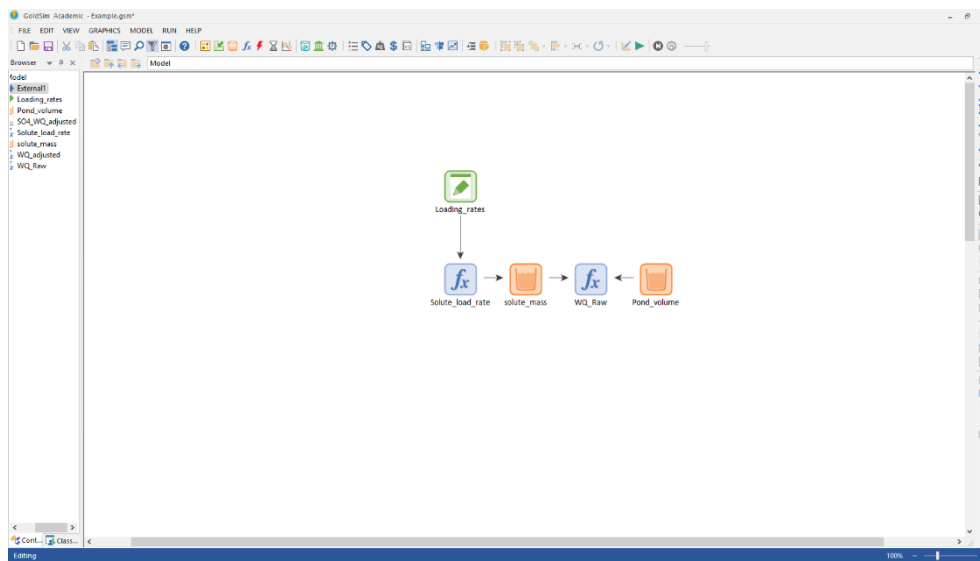

Figure 4: Initial condition of GoldSim Simulation
1. Create the initial conditions of the model, including the input data you are wishing to pass into GoldQC. This example uses a very basic model that loads seven elements into a solution of water. See Figure 4.